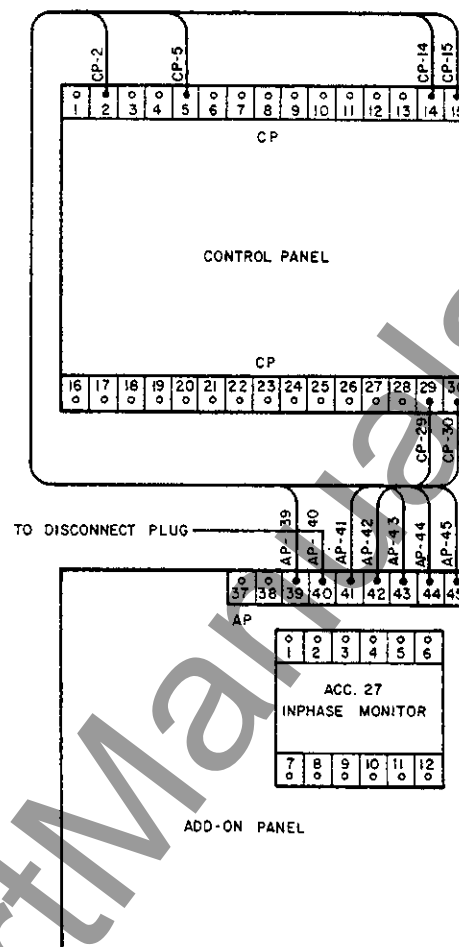

Figure 23. Optional Accessory 27
**Acc. 27**, if furnished, is an inphase monitor control for transfer and retransfer of motor loads, so that inrush currents do not exceed normal starting currents. This avoids nuisance tripping of circuit breakers and possible mechanical damage to motor couplings. See Figure 23.